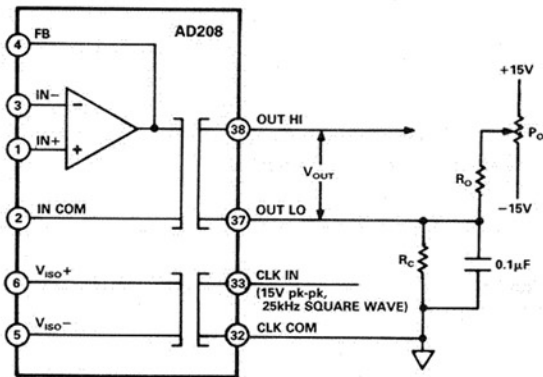

Figure 36. Output Side Offset Adjustment Circuit
**Offset Adjustment.** Figure 36 shows the recommended technique for offset adjustment at the output. In this circuit, a  $\pm 15\text{ V}$  dc voltage is supplied by an independent source. With reference to the output circuitry shown in Figure 36, the maximum offset adjustment range is given by: